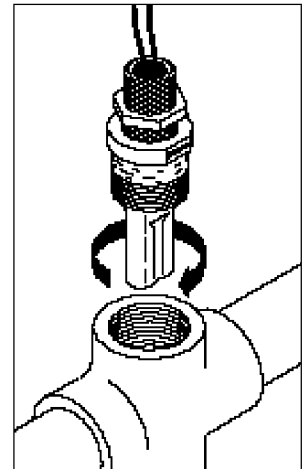

FIGURE 3
5. Install electrode into cross housing. Make sure that flow arrows marked on electrode are lined up parallel with the piping run and point in direction of flow (Figure 3).